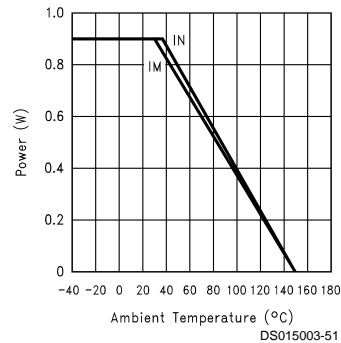

FIGURE 12. Power Derating Curve
3. Calculate the total RMS power: $P_t = P_{amp} + P_O$ The maximum power that the DIP and SOIC, packages can dissipate at a given temperature is illustrated in *Figure 12*. The power derating curve for any CLC5632 package can be derived by utilizing the following equation: